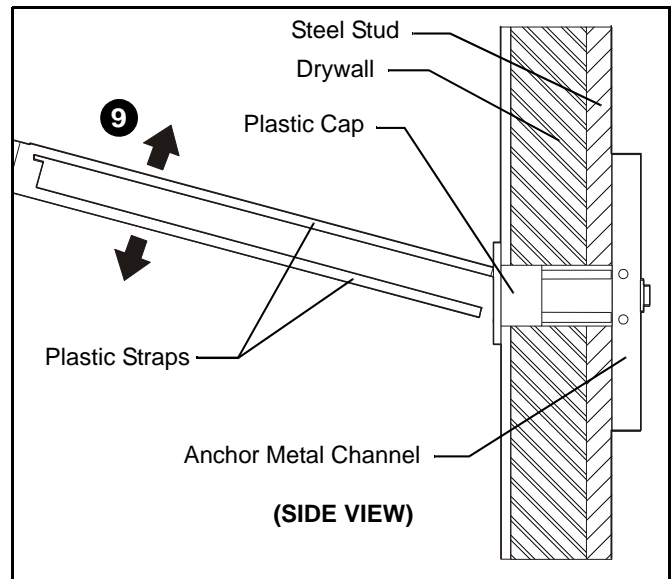

Figure 8
9. Snap off plastic straps on anchor at wall by pushing side to side, snapping off straps level with flange of plastic cap. (See Figure 8)